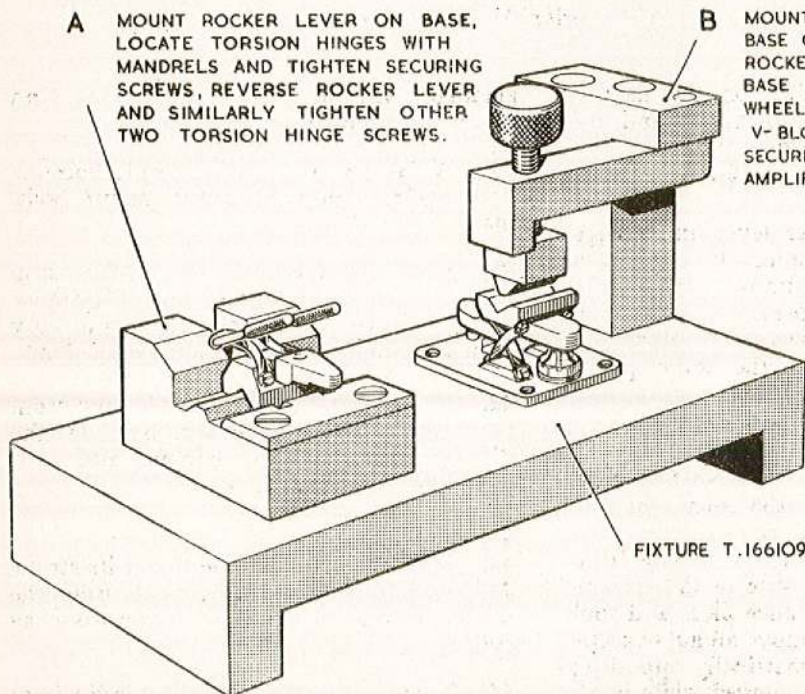

Fig. 12. Amplifier valve assembling and dismantling fixture
37. Mount the assembly on the fixture T.166109, unlock the tabwashers and remove the set screws which retain the torsion hinges to the baseplate (*fig. 12*).